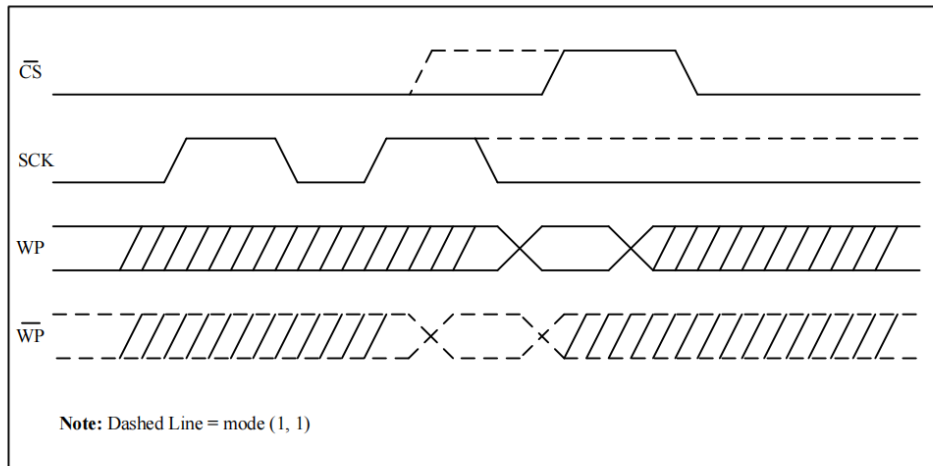

Figure 9
**Write Protection:** The Write Protect ( $\overline{WP}$ ) pin can be used to protect the Block Protect bits BP0 and BP1 against being inadvertently altered. When  $\overline{WP}$  is low and the SRWD bit is set to "1", write operations to the Status Register are inhibited.  $\overline{WP}$  going low while  $\overline{CS}$  is still low will interrupt a write to the status register. If the internal write cycle has already been initiated,  $\overline{WP}$  going low will have no effect on any write operation to the Status Register. The  $\overline{WP}$  pin function is blocked when the SRWD bit is set to "0". The  $\overline{WP}$  input timing is shown in Figure 9.